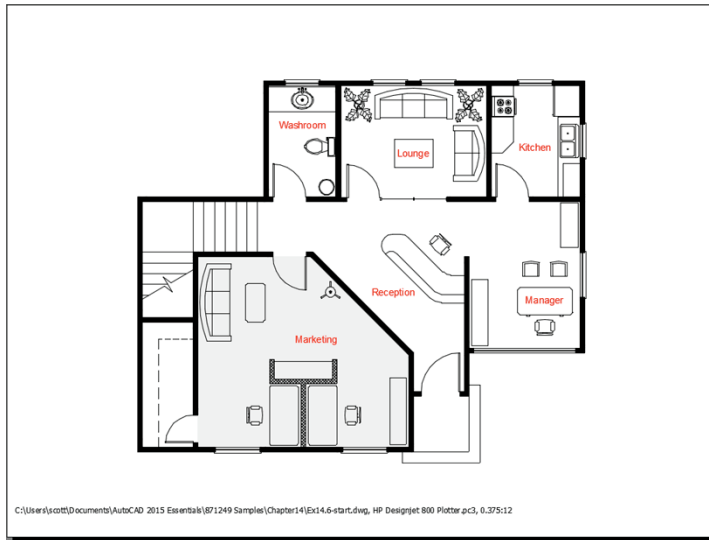

FIGURE 14.17 What you see is what you get in the plot preview window.
6. Click the Preview button in the lower-left corner of the Plot – Model dialog box. Click Continue in the Plot – Plot Scale Confirm dialog box that appears. A preview window temporarily replaces the user interface (see Figure 14.17).